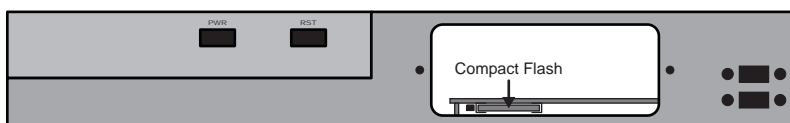

Figure 2 CompactFlash
6. Identify the **CompactFlash** installed in the CF Slot on the underside of the CPU Board (**Figure 2**).